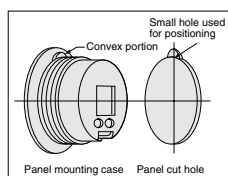

Figure 1
3. When mounting on a panel, first align the convex section of the back side of the panel mounting case flange to the small hole used for positioning on the panel cut hole (see Figure 1).